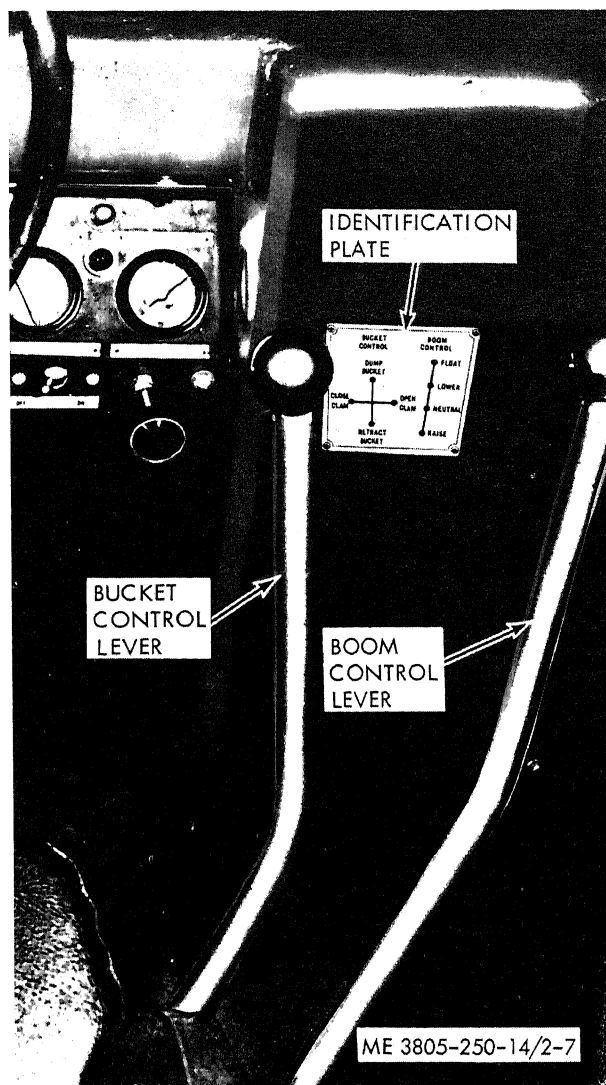

Figure 2-7. Bucket control levers operation.
(1) Start the loader (para. 2-10) and allow the engine to reach operating temperature.
(2) Raise the bucket about one foot from the ground. Refer to figure 2-7 for bucket operation.
(3) Release the parking brake and place the transmission control lever in the proper position for the desired direction and range.
KEY to fig. 2-7:
(1) *General.* The multi-purpose bucket consists of a mold board, a pivoted clam, and two hydraulic cylinders which operate the clam. Bucket operation is controlled by the bucket control lever and the boom control lever (fig. 2-7).